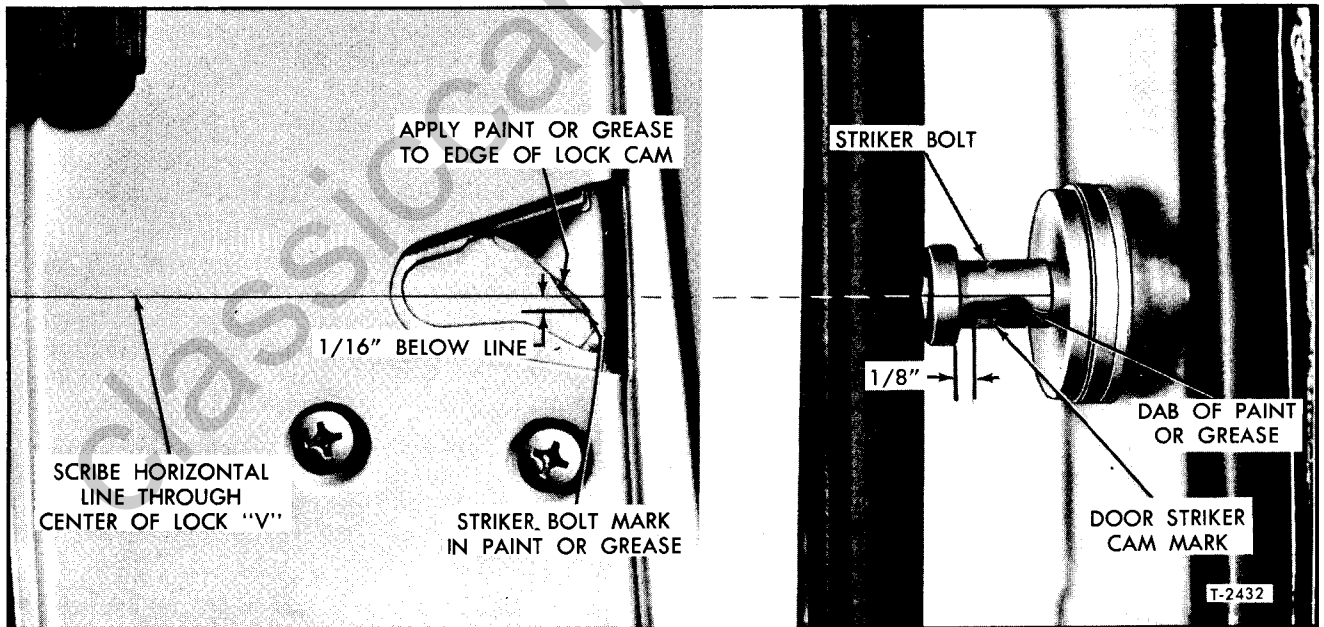

Figure 10—Striker Bolt Alignment Points
1. To check striker bolt for proper fore and aft adjustment, smear grease or paint to contact side of bolt as shown in right view of figure 10.
3. Measure distance between head of bolt and the cam impression in grease. Distance should measure 1/8-inch as shown in right view of figure 10. This dimension is necessary to assure that the head of striker bolt will ride at center of nylon shoe which is located just in back of the lock cam.
1. Mark a horizontal line through center of "V" slot and on door lock cam as shown in left view of figure 10.